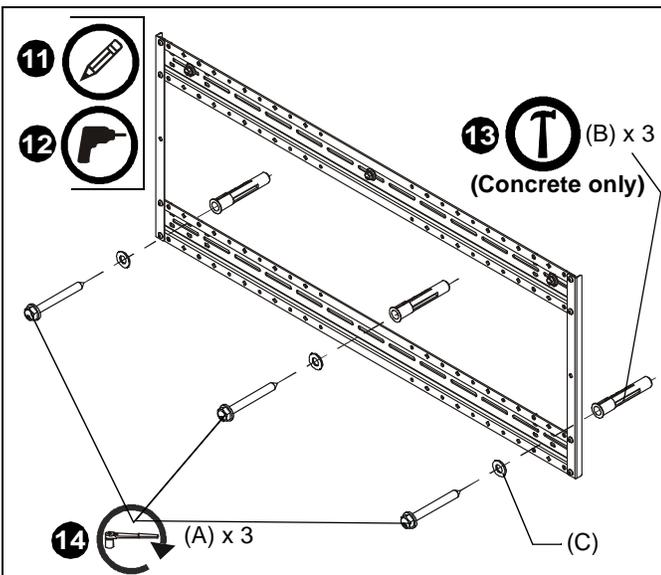

Figure 5
12. **Wood stud:** Drill three 7/32" x 2-3/4" pilot holes at marked locations. **Concrete:** Drill three 3/8" x 3-1/2" pilot holes at marked locations. (See Figure 5)
13. **Concrete only:** Install an anchor (B) into each pilot hole using a hammer, making sure that the anchor is flush with the wall.
14. Secure lower wall plate to wall using three 5/16 x 2-3/4" hex head lag screws (A) and three 5/16" washers (C). (See Figure 5)